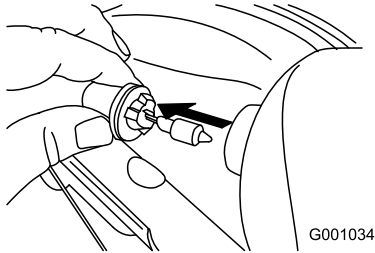

Figure 59
3. Remove the bulb straight out from the back of the headlight (Figure 59).